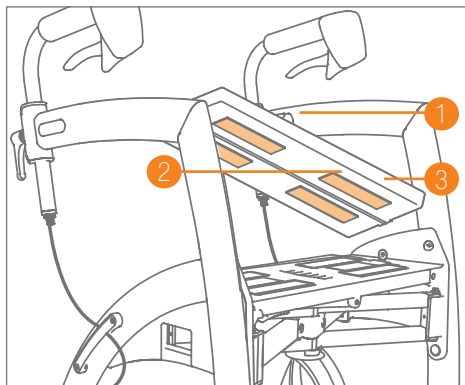

Figure 69: Removing the seat cushion from the rollator.
- a. Pull the Velcro on the cover of the cushion off from the seat (**Figure 69**).